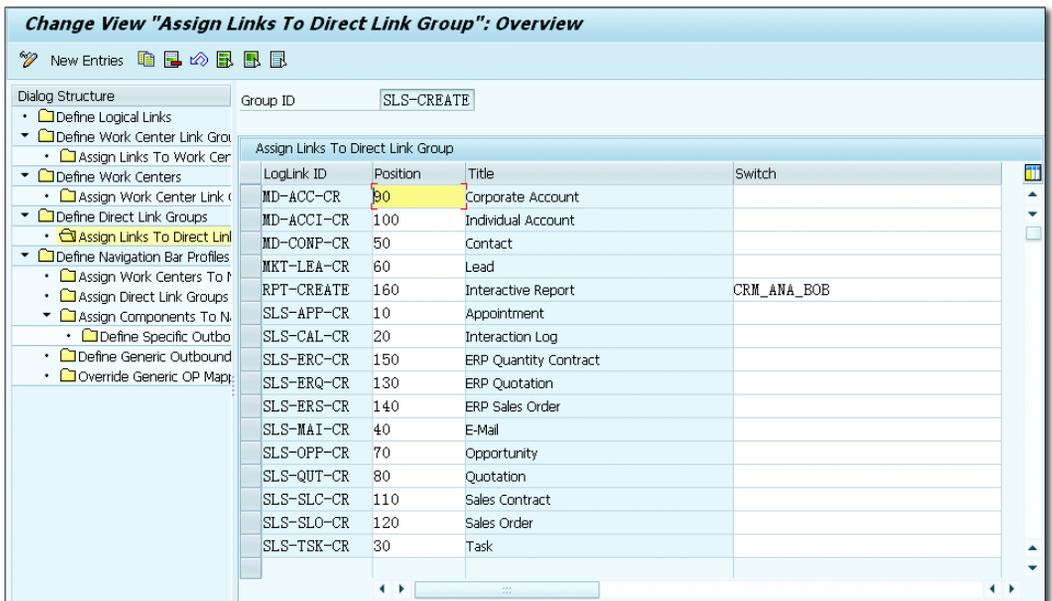

Figure 8.39 Assigning Links to the Direct Link Group
9. After the direct link group is created, you assign the logical link to the direct link group (see Figure 8.39).